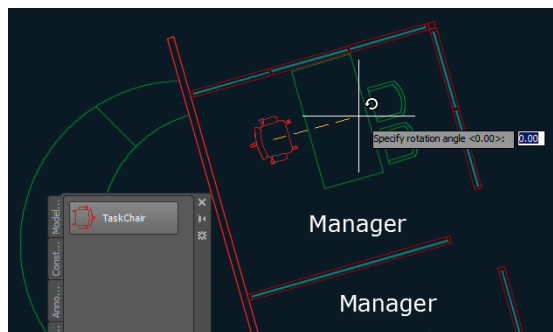

FIGURE 9.24 Inserting a chair from the tool palette
6. Click the TaskChair tool on the Furniture tool palette. Click the place where the manager's chair used to be, and then specify the rotation by clicking a second time. Click OK or Cancel to close the Edit Attributes dialog box that appears. Figure 9.24 shows the result.